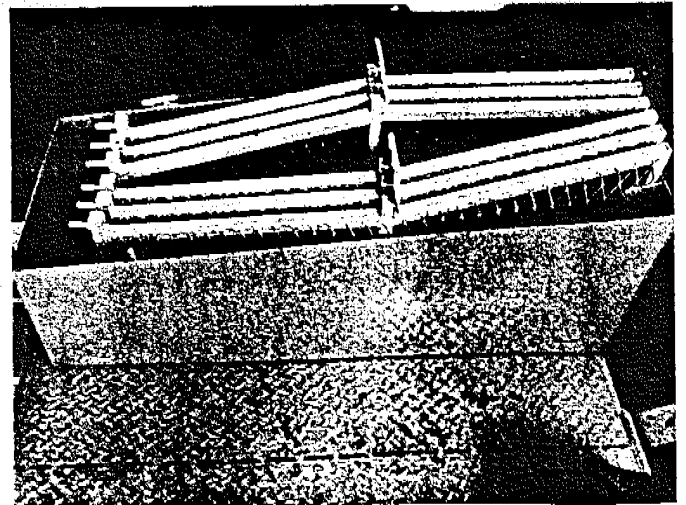

Fig. 48
- c. Store the small fence sections in the storage box on the gooseneck. (Fig. 48)